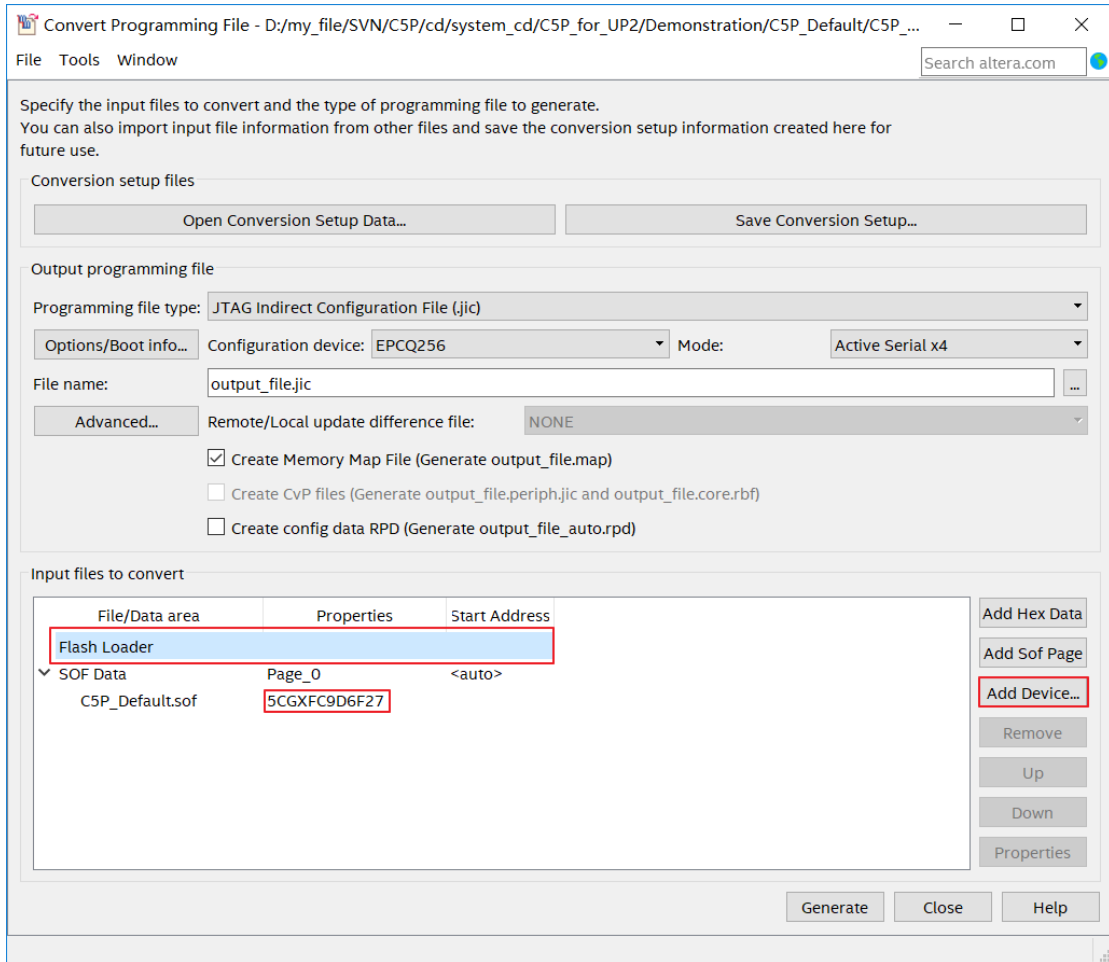

Figure 6-3 Click on the “Flash Loader”
10. Click on the **Flash Loader** and click **Add Device**, as shown in **Figure 6-3**.